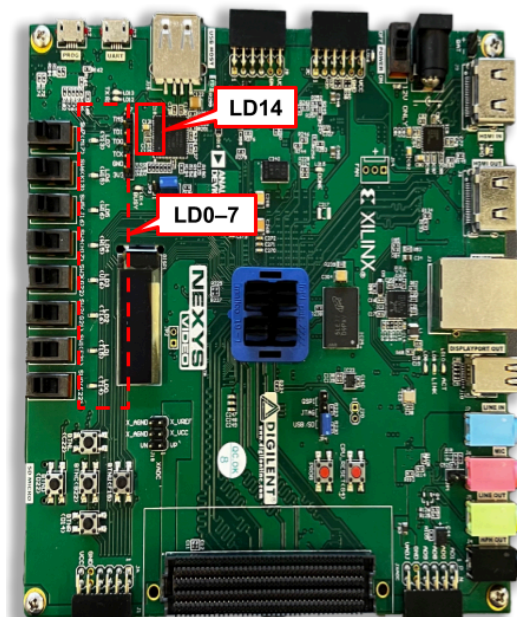

Figure 4. Status LED locations on Nexys Card.
4. Wait for LD14 (Figure 4) should turn solid yellow on power-up, and turn off once the firmware is loaded.